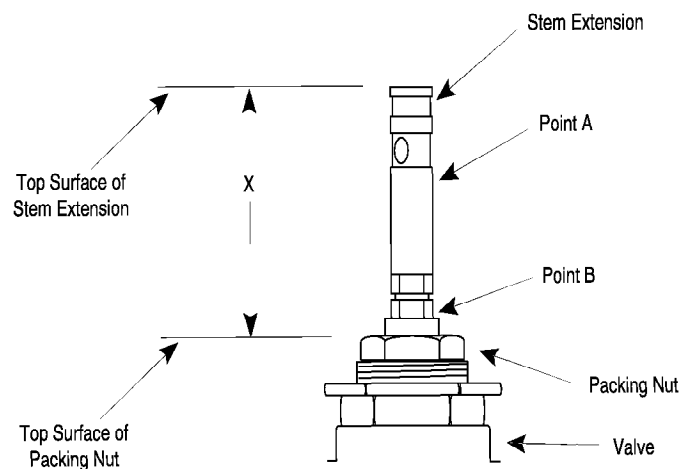

Figure-5 Height Adjustment of Combination Stem Extension and Locknut.
4. Adjust the height of the stem extension to the "X" dimension shown in Table-3 or Table-4 for the appropriate valve body. The "X" dimension is from the top of the stem extension to the top of the valve packing nut (Figure-5).